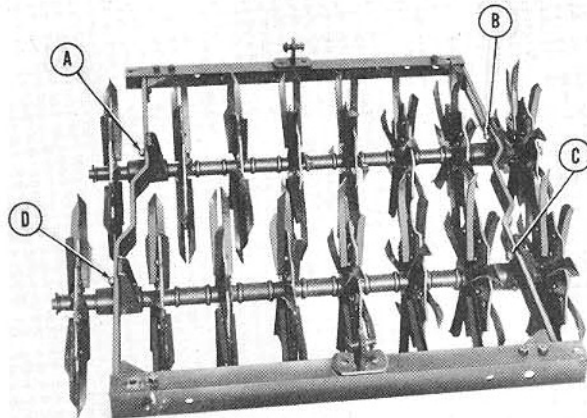
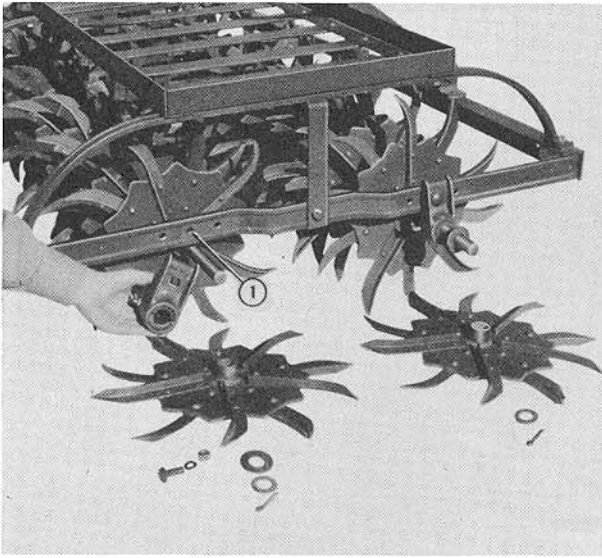

Figure 4
Figure 5
2. Place the frame on the hoe wheel gangs and bolt the bearing boxes on each end of both gangs to the frame at points (A), (B), (C) and (D), as shown in Figure 4. Place these bolts through the center hole (1) of the series of three holes as shown in Figure 5. Secure with lockwasher and nut.